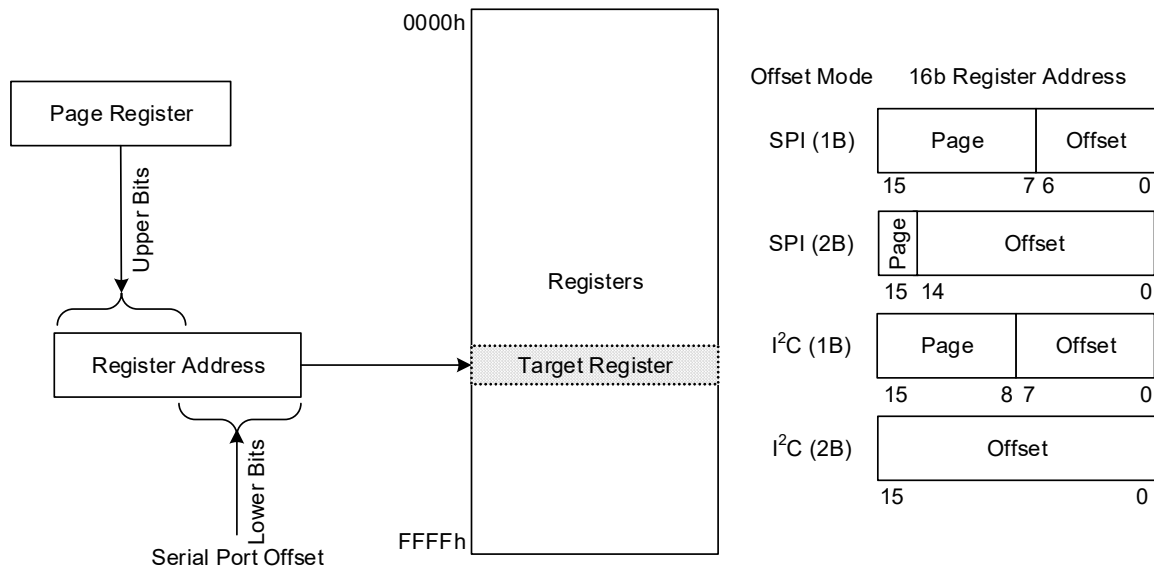

Figure 18. Register Addressing Modes Using Serial Port
You can choose to operate the serial port providing the full offset address within each burst, or to operate in a paged mode where part of the address offset is provided in each transaction and another part comes from an internal page register in each serial port. Figure 18 shows how page register and offset bytes from each serial transaction interact to address a register within the RC32504A.
The selection of 1-byte (1B) or 2-byte (2B) offset addressing must also be configured using the `ssi_addr_size` register field. These offsets are used in conjunction with the page register to access registers internal to the device (see Figure 18). Because the I²C protocol already includes a read/write bit with the Dev Addr, all bits of the 1B or 2B offset field can be used to address internal registers.
- 1-byte (1B) or 2-byte (2B) offset addressing (`ssi_addr_size`) (see Figure 18)